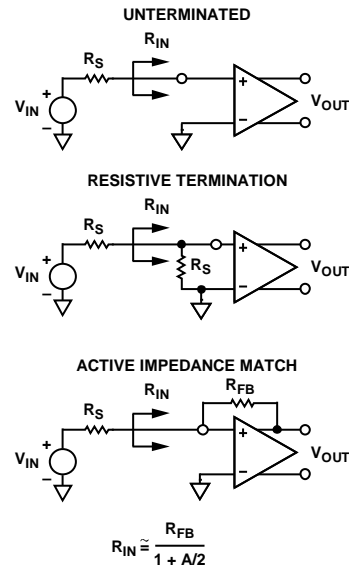
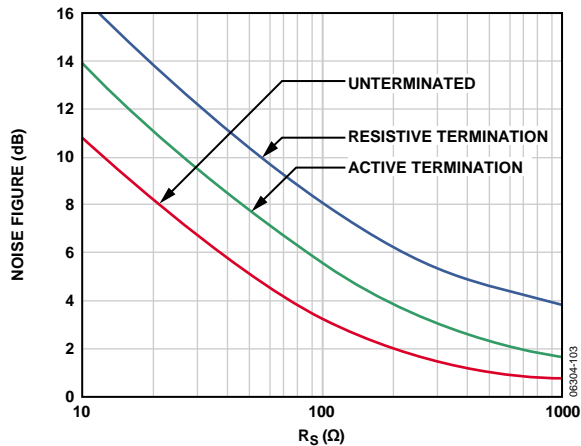
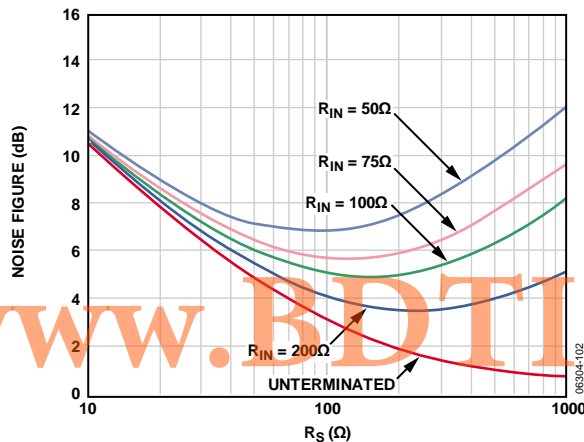

Figure 43. Input Configurations
Figure 44. Noise Figure vs.  $R_S$  for Resistive Termination, Active Termination Matched, and Unterminated Inputs,  $V_{Gain} = 1\text{ V}$ , 15.6 dB LNA Gain
Figure 45. Noise Figure vs.  $R_S$  for Various Fixed Values of  $R_{IN}$ , Active Termination Matched Inputs,  $V_{Gain} = 1\text{ V}$ , 15.6 dB LNA Gain
The short-circuit noise voltage (input-referred noise) is an important limit on system performance. The short-circuit noise voltage for the LNA is 1.2 nV/ $\sqrt{\text{Hz}}$  or 1.4 nV/ $\sqrt{\text{Hz}}$  (at 15.6 dB LNA gain), including the VGA noise. These measurements, which were taken without a feedback resistor, provide the basis for calculating the input noise and noise figure (NF) performance of the configurations shown in Figure 43. Figure 44 and Figure 45 are simulations of noise figure vs.  $R_s$  results using these configurations and an input-referred noise voltage of 4 nV/ $\sqrt{\text{Hz}}$  for the VGA. Underterminated ( $R_{FB} = \infty$ ) operation exhibits the lowest equivalent input noise and noise figure. Figure 45 shows the noise figure vs. source resistance rising at low  $R_s$ —where the LNA voltage noise is large compared with the source noise—and at high  $R_s$  due to the noise contribution from  $R_{FB}$ . The lowest NF is achieved when  $R_s$  matches  $R_{IN}$ .
The primary purpose of input impedance matching is to improve the transient response of the system. With resistive termination, the input noise increases due to the thermal noise of the matching resistor and the increased contribution of the LNA's input voltage noise generator. With active impedance matching, however, the contributions of both are smaller (by a factor of  $1/(1 + \text{LNA Gain})$ ) than they would be for resistive termination. Figure 44 shows the relative noise figure performance. In this graph, the input impedance was swept with  $R_S$  to preserve the match at each point. The noise figures for a source impedance of 50  $\Omega$  are 7.1 dB, 4.1 dB, and 2.5 dB for the resistive termination, active termination, and unterminated configurations, respectively. The noise figures for 200  $\Omega$  are 4.6 dB, 2.0 dB, and 1.0 dB, respectively.
Figure 45 shows the noise figure as it relates to  $R_S$  for various values of  $R_{IN}$ , which is helpful for design purposes.